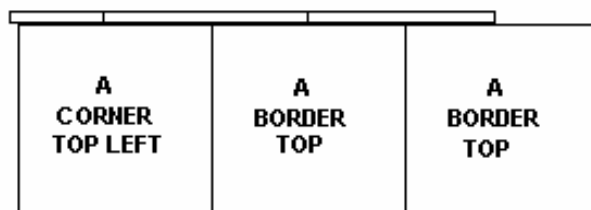

Figure 7
- Next take another transition and lock the next two panels (Figure 7).